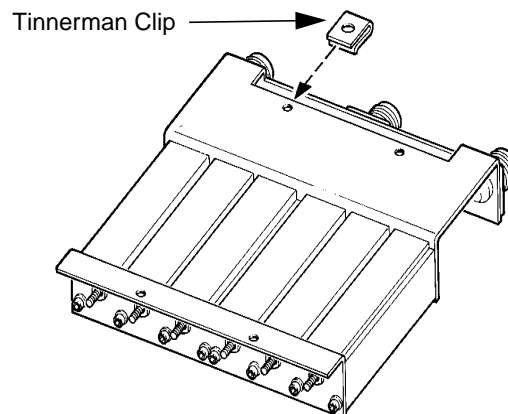

Figure 2-5. Duplexer, Bottom View
2. Using a pair of needle nose pliers, place Tinnerman clips from kit HKKN4002 over four of the mounting holes of the duplexer (refer to Figure 2-5).